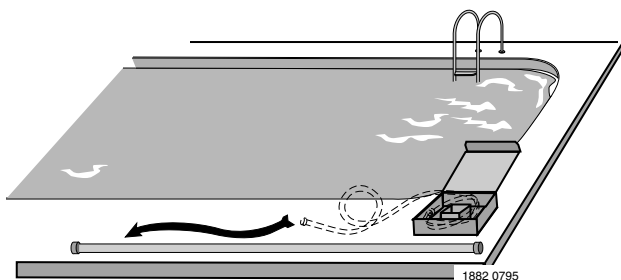

Figure 2
Step 2: Straighten hose (Figure 2)